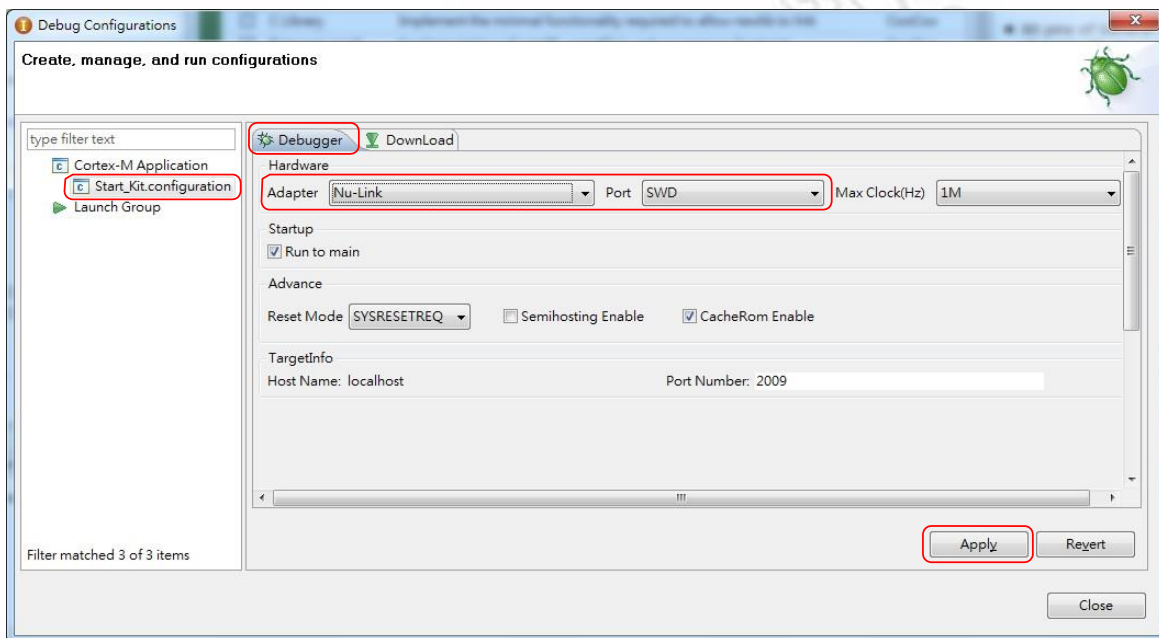

Figure 4-20 Specify the Debugger Options for CooCox CoIDE
Step 3: In the **Debugger** tab of the *Debug Configurations* form (through invoking **Debug** → **Debug Configurations**), select “**Nu-Link**” as the Adapter, select “**SWD**” as the Port, and click **Apply** to save the settings, as shown in Figure 4-20.